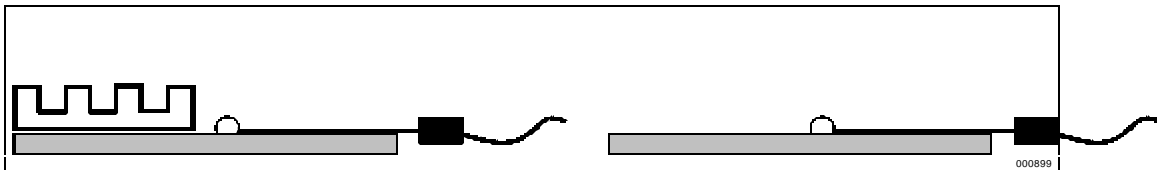

Figure 20. Technique for Measuring T_{PLATE} with 0° Angle Attachment
To ensure functional and reliable processor operation, the processor's thermal plate temperature (T_{PLATE}) must be maintained at or below the maximum T_{PLATE} and at or above the minimum T_{PLATE} specified in Table 42. Power from the processor core is transferred to the thermal plate at 2 locations on all Pentium III Xeon processor at 600 MHz+ products. Figure 20 and 21 shows the locations for T_{PLATE} measurement directly above these transfer locations. Thermocouples are used to measure T_{PLATE} and special care is required to ensure an accurate temperature measurement. Before taking any temperature measurements, the thermocouples must be calibrated. When measuring the temperature of a surface, errors can be introduced in the measurement if not handled properly. Such measurement errors can be due to a poor thermal contact between the thermocouple junction and the measured surface, conduction through thermocouple leads, heat loss by radiation and convection, or by contact between the thermocouple cement and the heat sink base. To minimize these errors, the following approach is recommended:
- A thermocouple should be attached at a 0° angle if no heat sink is attached to the thermal plate. If a heat sink is attached to the thermal plate but the heat sink does not cover the location specified for T_{PLATE} measurement, the thermocouple should be attached at a 0° angle (refer to Figure 20).